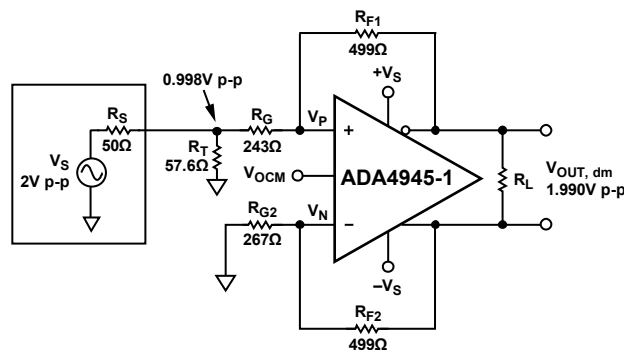

Figure 109. Terminated Single-Ended-to-Differential System with  $G=1$
- The modified gain resistor,  $R_{G1}$ , changes the input impedance. Repeat Step 1 through Step 4 several times using the modified value of  $R_{G1}$  from the previous iteration until the value of  $R_T$  does not change from the previous iteration. After three additional iterations, the change in  $R_{G1}$  is less than 0.1%. The final circuit is shown in Figure 109 with the closest 1% resistor values.